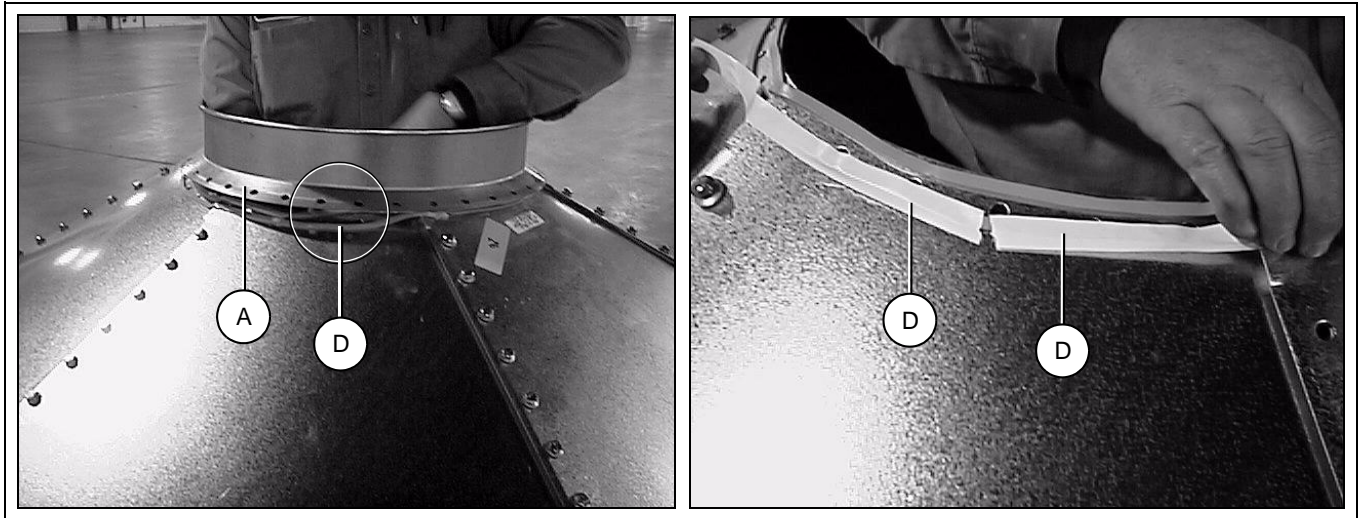

Figure 7D
Apply two (2) strips of caulking between peak ring and roof panels, *See Figure 7D*. Note that the peak ring goes on the outside of the roof panels.